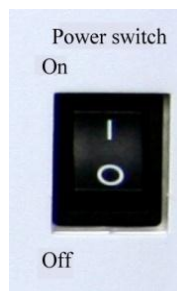

Fig. 2.2 Power Switch on Rear Panel of Series 3986
Step 2. Turn on the power switch of the rear panel, as shown in Fig. 2.2, and check if the standby indicator above the power switch of front panel lights up in yellow;